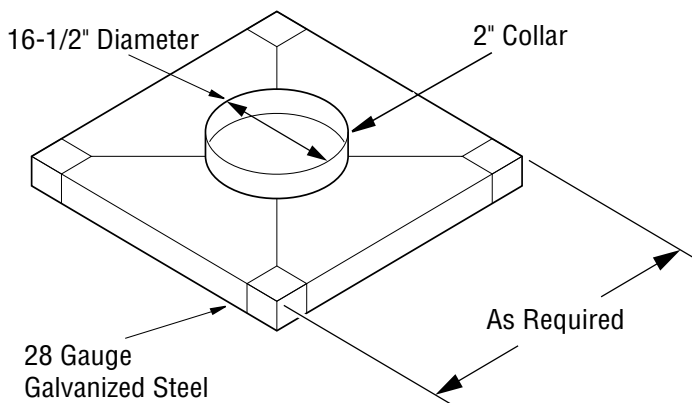

Figure 26 - Constructing Chase Top Flashing
3. Fabricate a flashing having a 16-1/2" diameter hole centered over chimney end with a 2" collar around hole (see Figure 26, page 15).